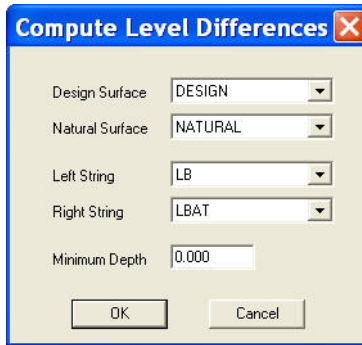

Figure 18-41. Compute Level Differences
1. Click **Profile** ► **Compute Level Differences**. The *Compute Level Differences* dialog box appears (Figure 18-41).